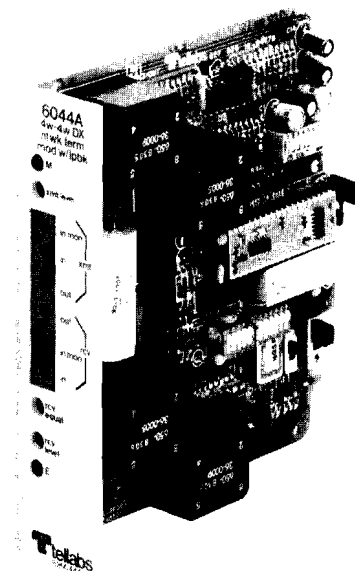

figure 1. 6044A 4W-4W DX Network Terminating Module with Loopback
1.01 The Tellabs 6044A 4W-4W DX Network Terminating Module with Loopback (figure 1) provides transmission interface and signaling conversion between a 4wire PBX tie trunk or a carrier channel and a 4wire metallic facility. This module provides level control (loss and gain) in the transmit and receive channels, active slope equalization for loaded or nonloaded cable in the receive channel, and extended-range E&M (DX) signaling. Specifically, the 6044A provides DX signaling over simplex leads derived from the 4wire facility, conversion between that DX signaling and terminal-side E&M signaling, and extension of this E&M signaling toward the 4wire termination. The 6044A provides switch-selectable DX1 or DX2 operation with a choice of either Type I, Type II, or Type III E&M-lead interfacing (see paragraph 1.07). The loopback feature of the 6044A provides both transmission-lead and signaling-lead loopback for remote testing of the module as well as the associated transmission facility. A member of Tellabs' 262U Universal Network Terminating System of modules and enclosures, the 6044A fulfills Registered Facility Interface Codes TC31E, TC31M, TC32E, TC32M, TL31E, TL31M, TL32E, and TL32M for applications where the serving telephone company uses facility-side DX signaling.